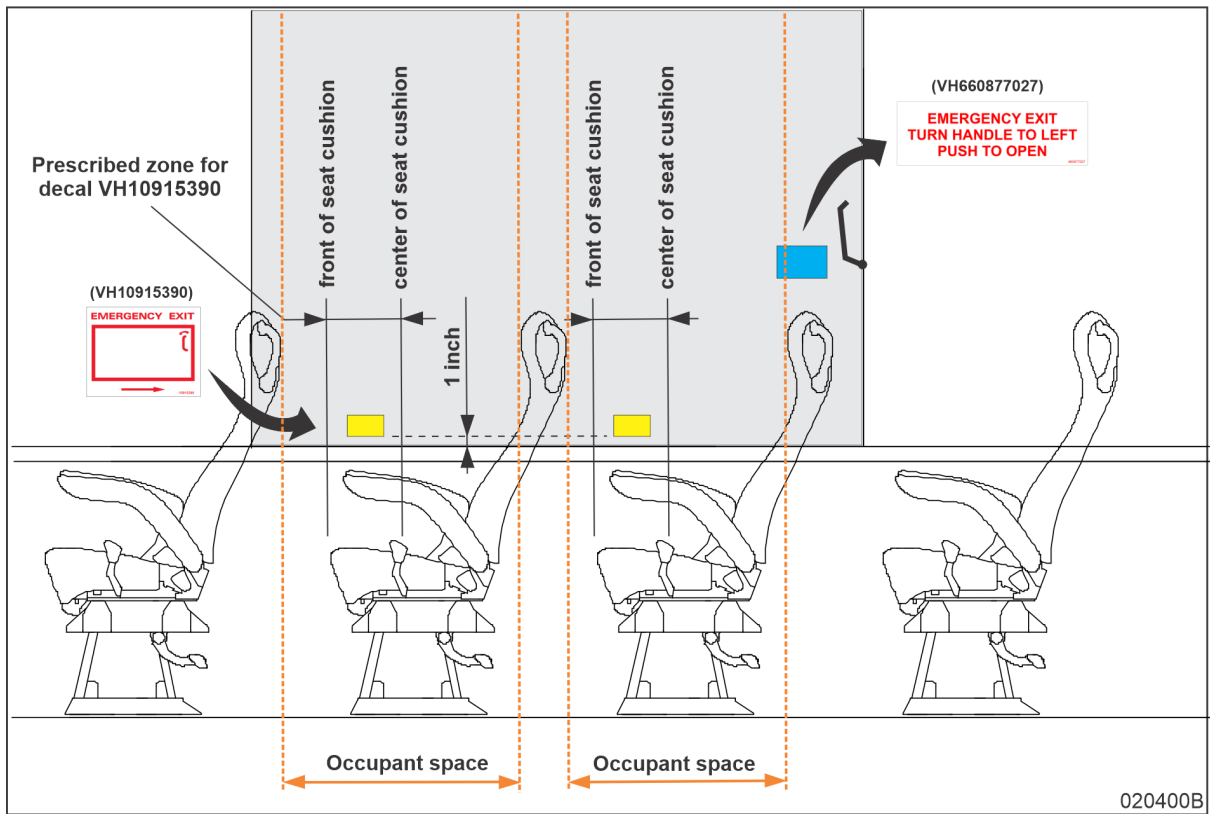

Figure 2: Position of decal 10915390 (view from inside on an emergency side window)
- **Decal 11372561 (figure 1)** must be applied at the inside of each emergency side window, near the emergency window handle. The arrow shows the direction the handle has to be turned to unlatch the emergency side window. Position the decal as indicated in figures 2 and 3.
LOCATION OF DIRECTION DECAL 10915390 OR 10915378 – Figures 2 and 3
The decal 10915390 or 10915378 should be applied at the inside of the emergency side window, at a distance of 1 inch from the lower emergency side window ledge and within a zone determined by the front and center of the adjacent seat cushion (refer to figures 2 and 3).